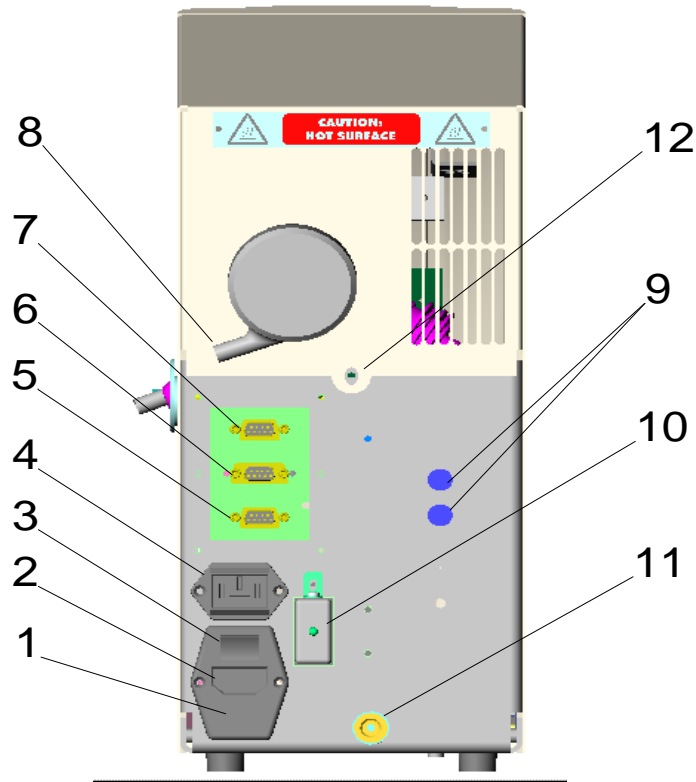

Figure 1.1 Rear View of PL-ELS 1000
If your PL-ELS 1000 unit may be fitted with a surge safe device, please remove this device before attempting a standard portable appliance test (P.A.T Test) on the instrument. The surge safe device if fitted will be seen protruding through the rear panel of the instrument (item 10 in figure 1.1). This device is designed to protect the instrument from high voltage line surges by filtering the incoming supply. However, on later units this device has been removed since further susceptibility testing has proved it is not necessary. On these units a blanking plate will be found in place of the surge safe device.